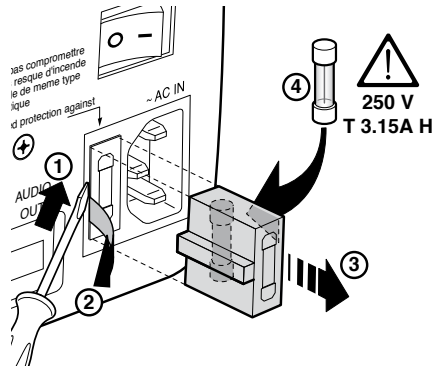

Fig.3
The fuse compartment is next to the power supply connector (Fig. 3). Remove the fuse holder (2) with a flat head screwdriver and replace the fuse (3). Fit a new spare fuse (4). Use only T 3, 15 A H fuses.